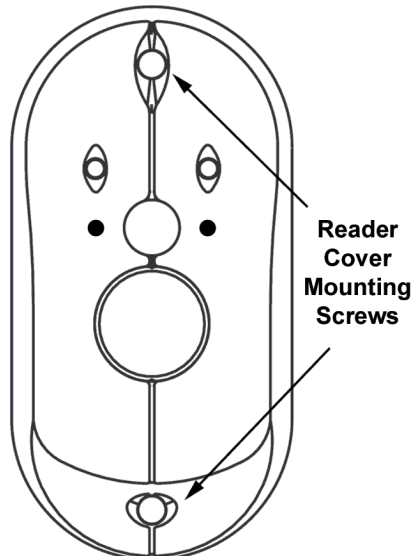

Figure 2-31 – Reader Cover Screws
2.11.1 If not already done, remove the Reader Cover by removing the two secure Torx Reader Cover Mounting Cover Screws (6-23 x 3/8") (Figure 2-31).
- 2.11.7 Install the Reader Cover and fasten with two secure T-10 Torx Reader Cover Mounting Screws (6-32 x 3/8") using the T-10 TORX L-key that is provided (Figure 2-31).